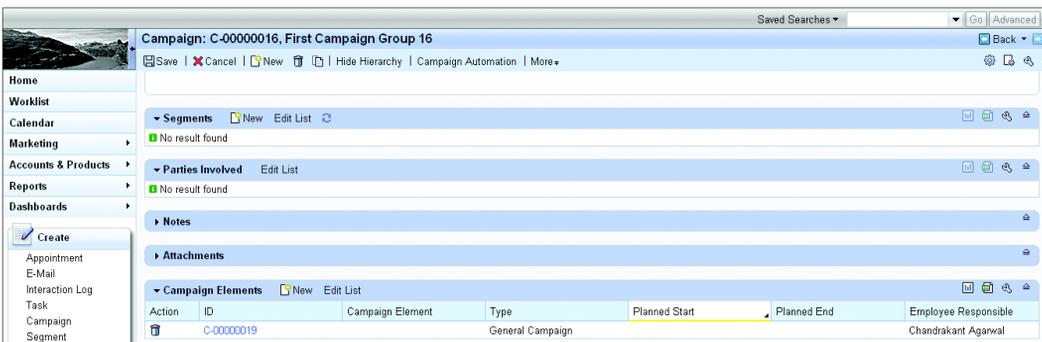
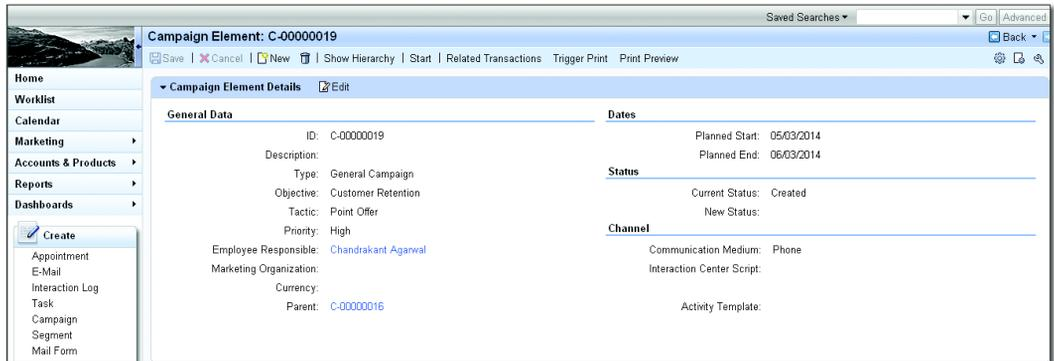

Figure 5.5 Creating a Campaign Element within a Campaign
Figure 5.6 Campaign Element
- You can add other details into the campaign; for example ATTACHMENT, PARTIES INVOLVED, TARGET GROUP, and PRODUCTS, or you can create another campaign element if required (see Figure 5.5). Figure 5.6 shows a campaign element being linked to the campaign.